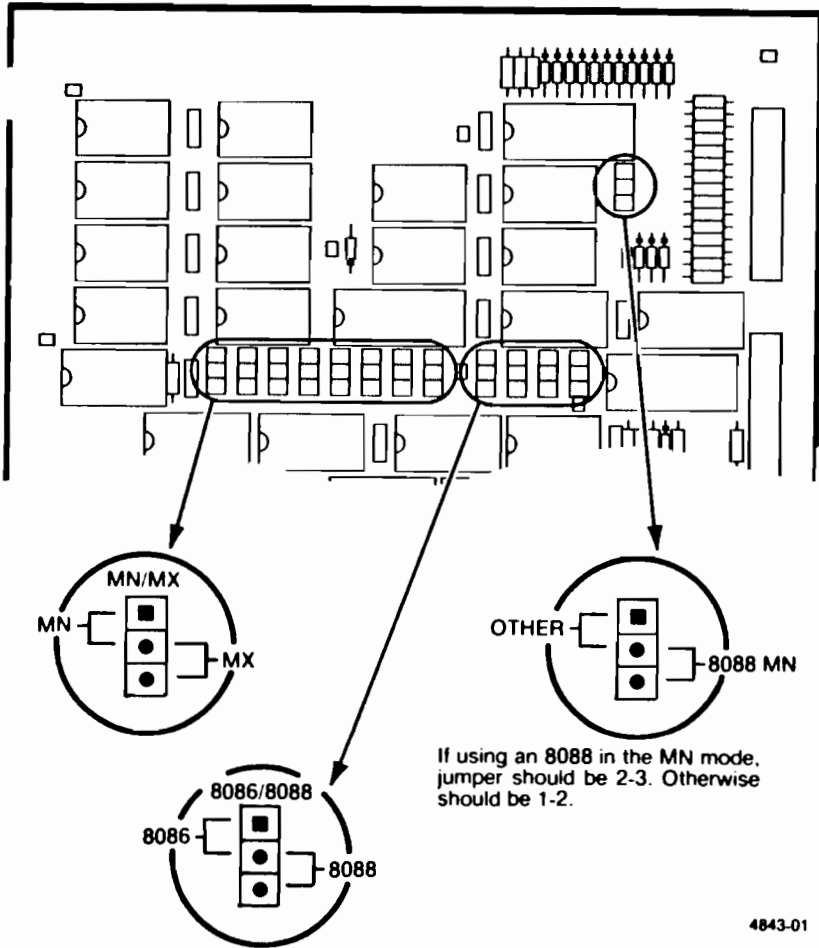
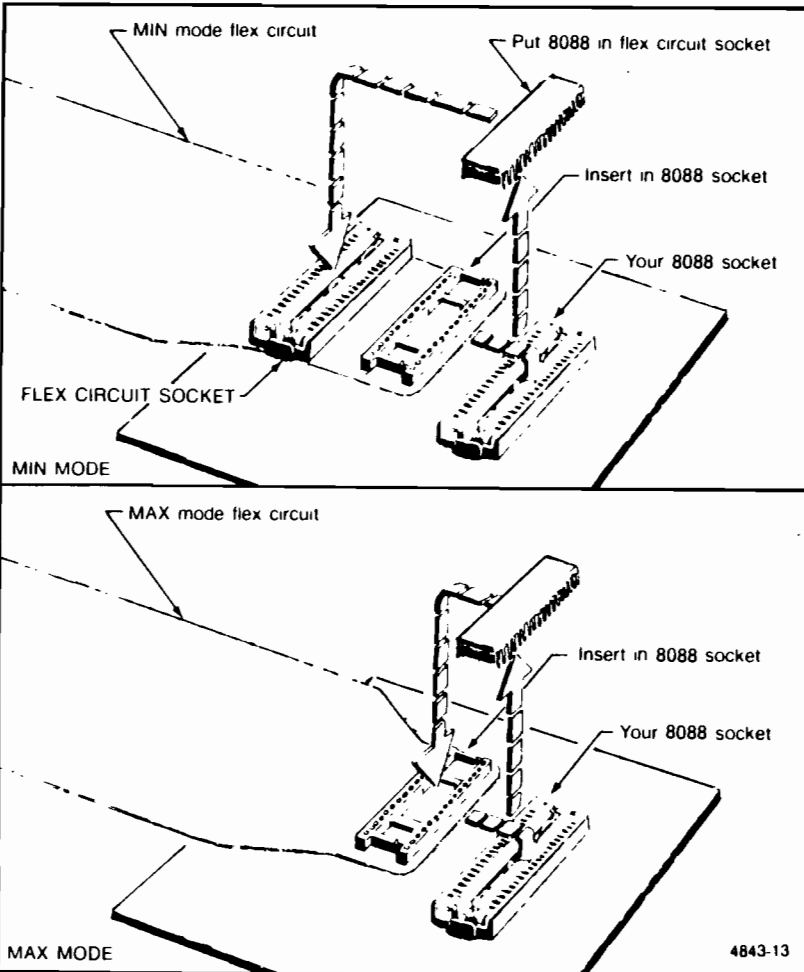

Figure 1. PM201 Configuration jumpers allow selection between MIN and MAX Modes, and between use with 8088s and 8086s.
Figure 2. Connecting the PM201 to the 8088 circuit.
Your PM201 was shipped to you configured for use with the 8088 Mnemonics ROM Pack (12RM04) in the MIN mode. If your 8088 is operating in the MAX mode, you will have to open the PM201 covers and move the jumpers on J310, J312, J314, J316, J318, J320, J322, and J324 to their MAX positions. Also, move the jumper on J132 to the 'other' position. Refer to Figure 1. Also, be sure to use the MAX mode flex circuit (shown in Figure 2) when connecting the PM201 to your 8088 system.
The PM201 can also be used with an 8086 Mnemonics ROM Pack (12RM03) in either MIN or MAX mode. To reconfigure your PM201 for use with an 8086, remove the vers of the PM201 and move the jumpers on J330, J332, J334, and J336 to the 86 position. Also, move the jumper on J132 to the 'other' position. Refer to Figure 1.
Connect the PM201 Personality Module to your circuitry using Figure 2 and the following procedure:
2. Remove the 8088 from its socket in your system and put it into the socket on the flexible circuit of the PM201. If your 8088 is operating in the MIN mode, use the MINmode flex circuit. If your 8088 is operating in the MAX mode, use the MAX mode flex circuit. Whichever flex circuit is used, be sure that it is oriented so that pin 1 connects to pin 1. Refer to Figure 2.